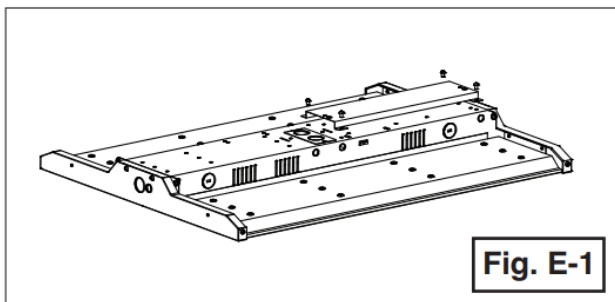

Fig. E-1
1. Install the mounting plate to the fixture by using the 4 screws. (Figure E-1)